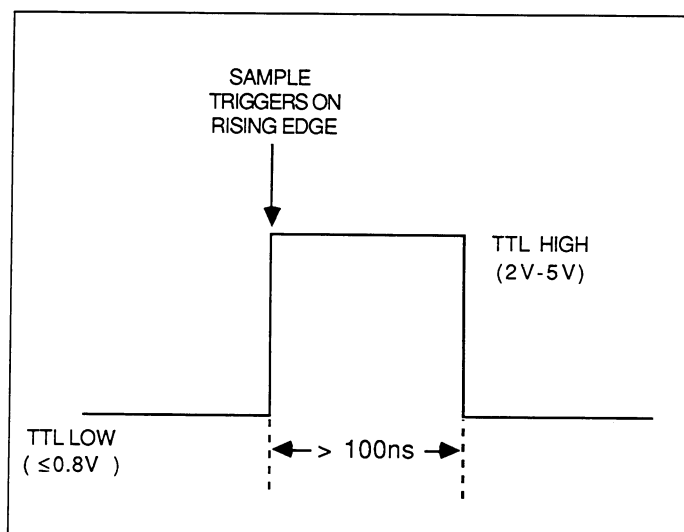

Figure 3-24. SAMPLE Input Pulse Specifications
The SAMPLE TRIGGER input is a BNC terminated coaxial cable, which is compatible with TTL or open collector drive circuits, as shown in Figure 3-24. Pulses on this line must be at least 100nsec in duration for reliable operation. Note that each sample is triggered on the low-to-high transition of the SAMPLE TRIGGER line when ABORT is low.
1. Connect the Model 1942 Sample Cable to the REAL TIME OUTPUT jack of the appropriate A/D module. Connect the BNC cable to the external sample trigger source. Keep in mind that the SAMPLE TRIGGER input requires TTL-compatible signal levels (see Figure 3-24).